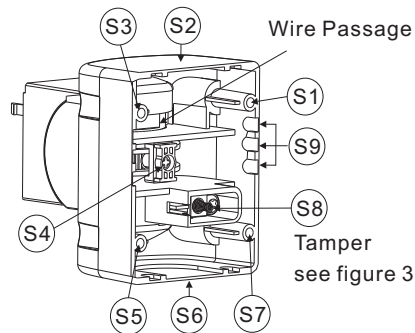

Figure 2
1. On the swivel base remove the required cable wiring knockout S2, S7 or S9 (Figure 2).
- b. Insert external cable wiring through knockouts S2, S6 or S9 and extract them (including the tamper wires) through the Wire Passage(Figure 2).
3. Insert tamper wires and external cable wiring from swivel wire passage through mounted-device's external base (Figure 2).